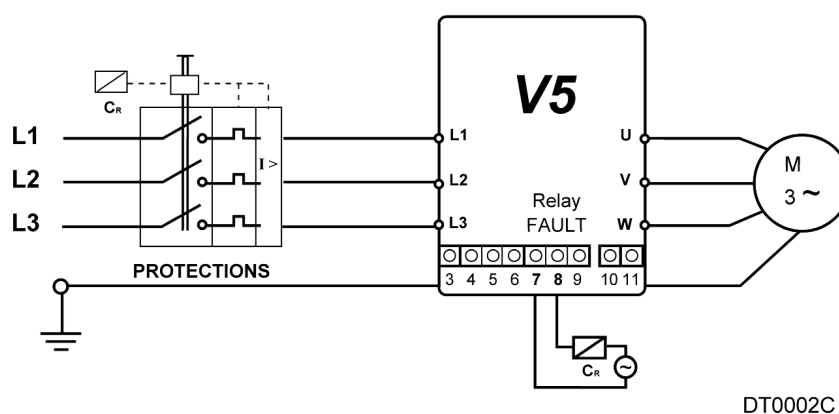

Figure 2.2 Recommended power wiring
- The SCR's used at the power circuit are electronic switches therefore it is recommended to use the configurations as shown on Fig. 2.2 or Fig. 2.3 of this manual.